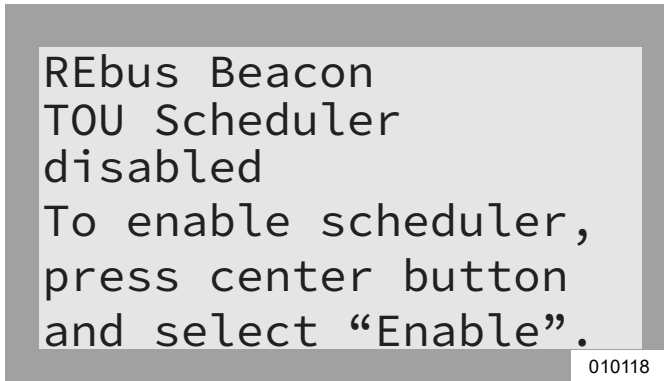

Figure 6-19. Enabling Beacon (1 of 2)
- See Figure 6-19. Navigate to the Beacon device page and press the center button to enter the device menu.